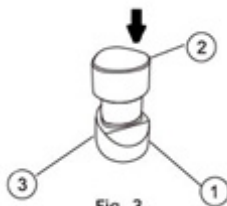

Fig. 3
Position the rechargeable battery (2) so that the "plus" and "minus" marks on the battery be in compliance with the same marks on the charger. Than press on the battery until it comes into the contact with bottom surface. Connect the charger(1) power cord to the socket (see Fig.3).